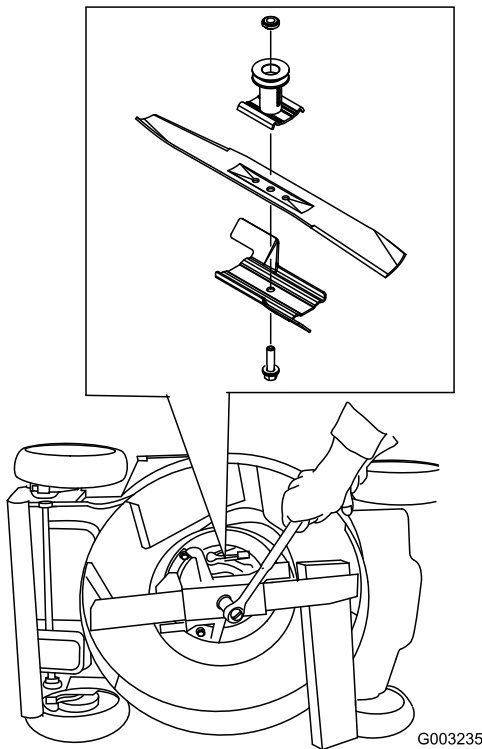

Figure 39
3. Use a block of wood to hold the blade steady (Figure 39).